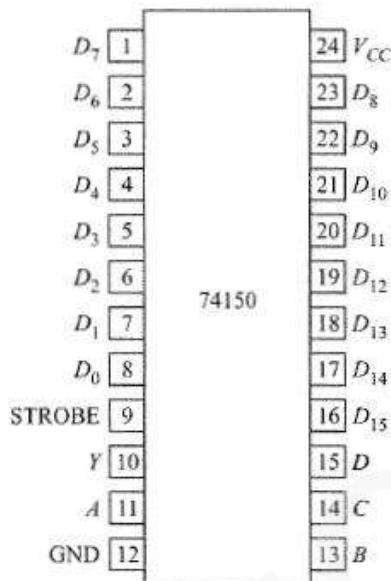

Figure 4.3: Pinout diagram of 74150
- Here's how it works (Figure 4.3):